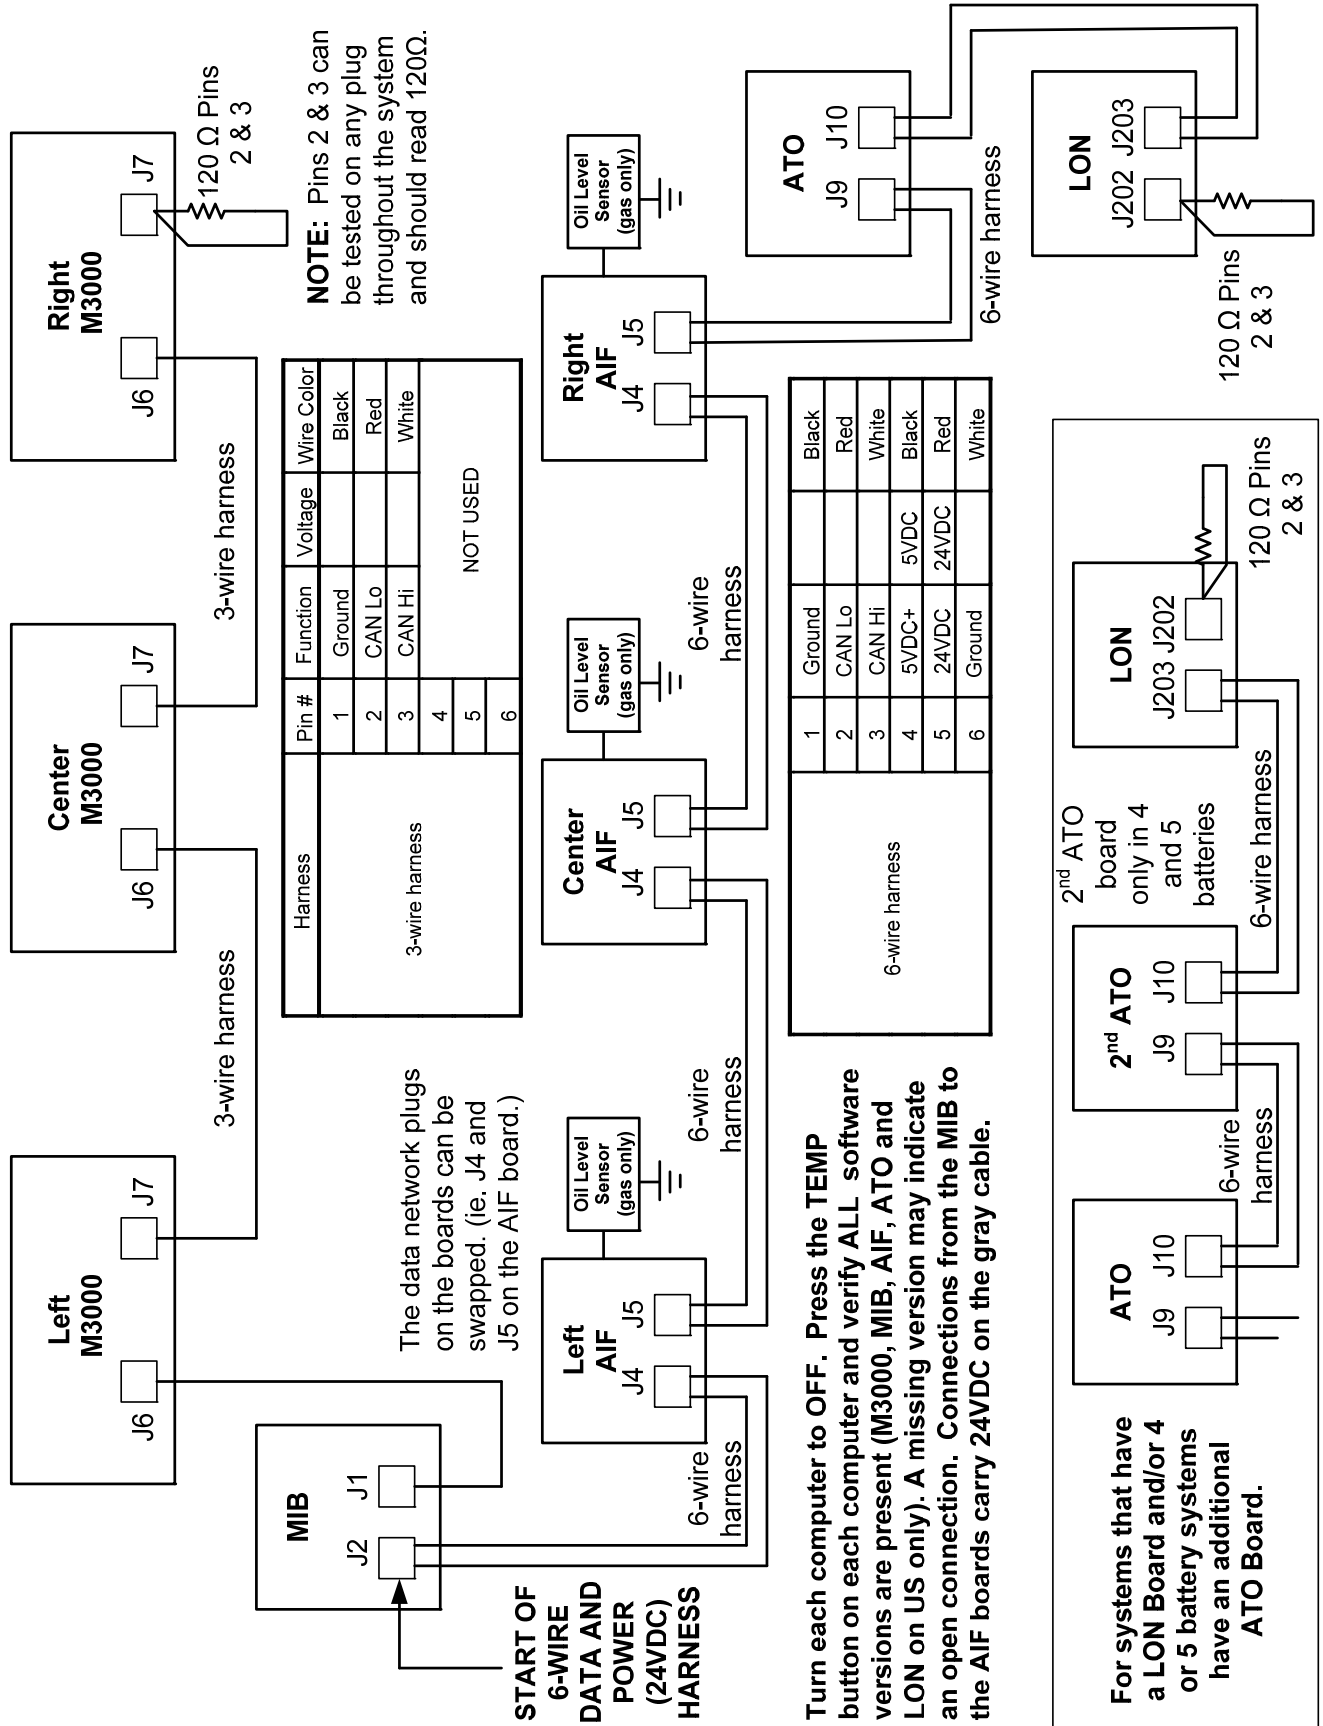

Figure 23
3. With the computer folded down, insert the SD card, with the contacts facing down and the notch on the bottom right (see Figure 23 and 24), into the slot on the left side of the M3000.
11. An **EXCEPTION MISCONFIGURED ENERGY TYPE** error may appear on the left computer while a flashing **BOOT** is displayed on the remaining computers while the program is transferred. If this happens, enter 1234 on the left computer. The display changes to **LANGUAGE** on the left and **ENGLISH** on the right. To change the entry use the **< FLTR** and **FLTR >** buttons. To navigate to the next field, use the **▼ INFO** button. Once all parameters have been setup, press *** (2)** button to exit. **SETUP COMPLETE** is displayed.